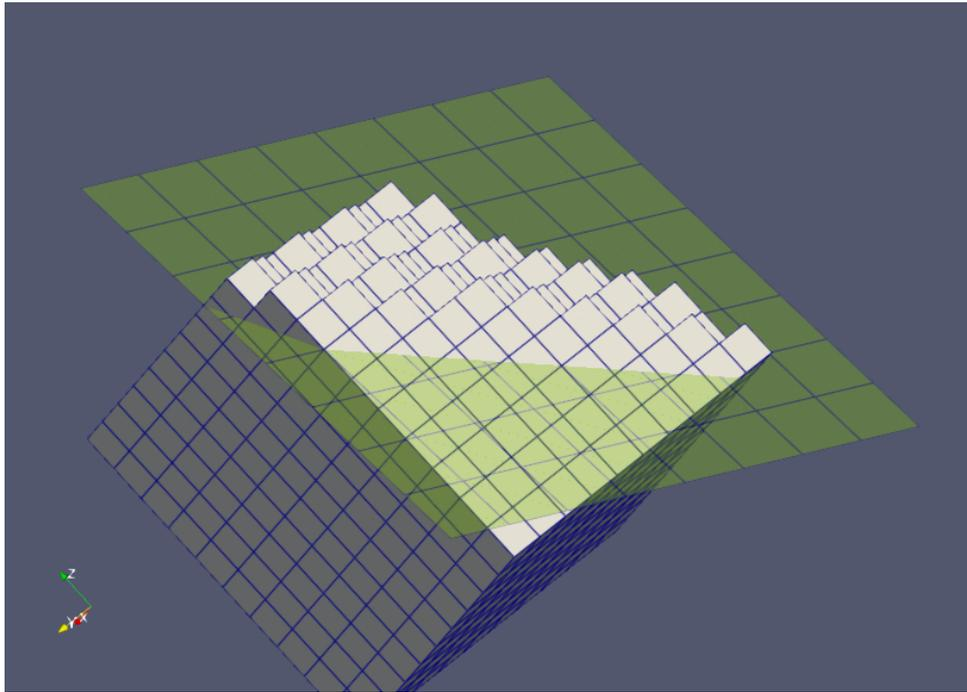

Fig. 2.51: Keep also the blocks (cells) that are cut by the clipping plane
- With the **Keep cells along boundary** option, blocks (cells) that are cut by the clipping plane are retained in the output: Fig. 2.51